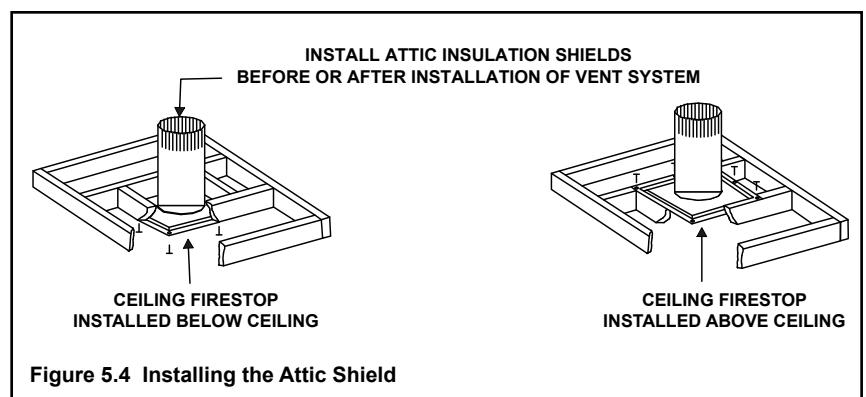

Figure 5.4 Installing the Attic Shield
- **SLP pipe only** - Frame opening 9 in. x 9 in. (229 mm x 229 mm) whenever the vent penetrates a ceiling/floor (see Figure 5.4).
- The ceiling firestop may be installed above or below the ceiling joists when installed with an attic insulation shield. It must be under joists between floors that are not insulated. Refer to Figure 5.4.